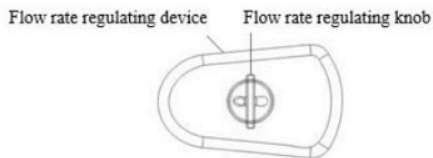

Figure 3: Schematic drawing of flow rate regulating device
- 10) The Multi-rate type (MCBI type, UMCBI type, MP type): Make sure that the flow rate regulating device is pointing to the correct flow rate before starting infusion. The selected flow rate is indicated by an arrow (see Figure 3).